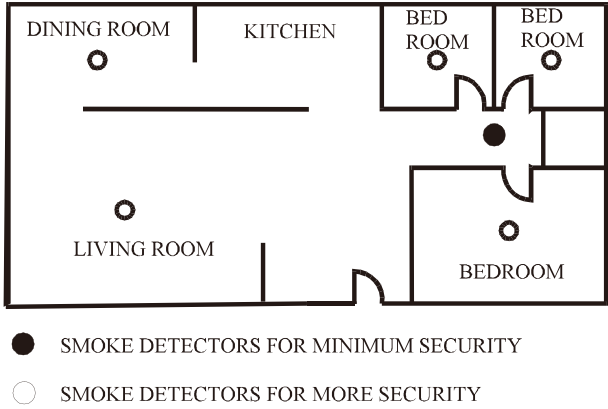
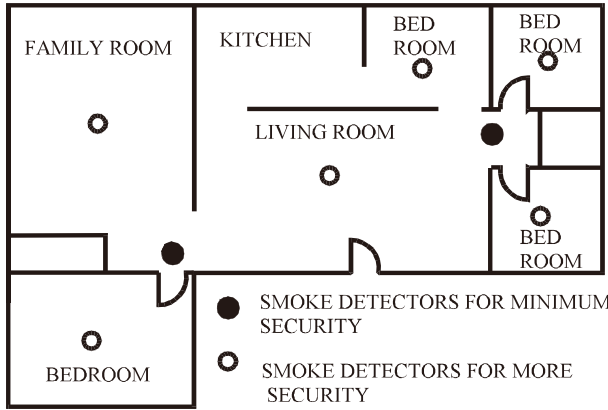

Figure 1: LOCATIONS FOR PLACING SMOKE ALARMS FOR SINGLE RESIDENCE WITH ONLY ONE SLEEPING AREA
Figure 2: LOCATIONS FOR PLACING SMOKE ALARMS FOR SINGLE-FLOOR RESIDENCE WITH MORE THAN ONE SLEEPING AREA
- Install a smoke alarm in the hallway outside every separate bedroom area, as shown in Figure 1. Two alarms are required in homes with two bedroom areas, as shown in Figure 2.